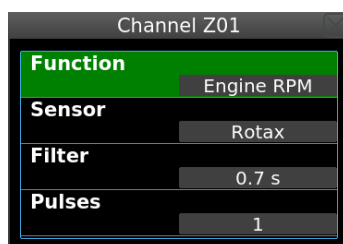

Figure 5: An example of channel details for Nesis software 2.9 or later.
- The **Edit** option opens a new window, which allows you to set the details for this channel. Figure 5 shows an example for the engine RPM.